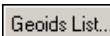

Figure 3-15. Geoids list button
- Click **Geoids List** (Figure 3-15).